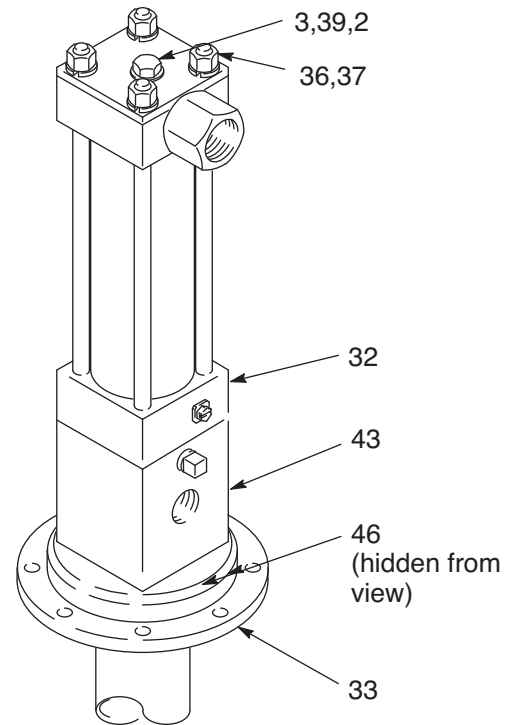

FIG. 8
1. Place the adapter (43) in a vise. Remove the four capscrews (46) and the base (33). Pull the bottom cap (32) off the adapter. See FIG. 8. If needed, replace the seals as described in Repair on page 11.
2. Remove the capscrew (3), nuts (36), and lockwashers (37) on top of the reciprocator. (FIG. 8)